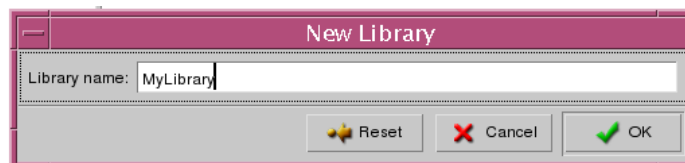

Figure 12: New Library Dialog Box
3. In the field **Library name**, enter **MyLibrary** then click **OK** (see Figure 12).